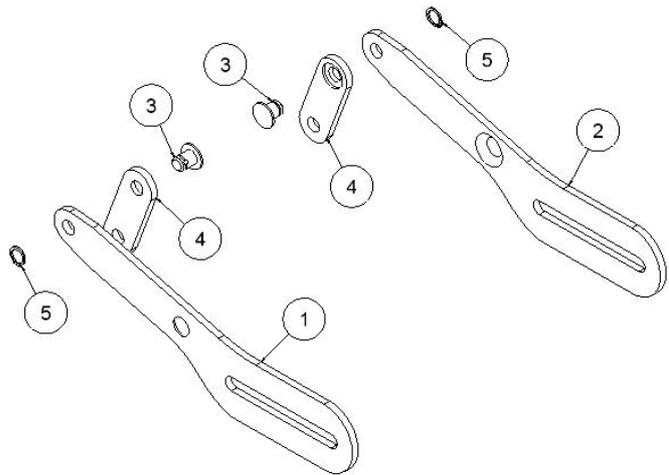

Figure.1
The handle group consists of the handle and the cam. Each handle (1 and 2) must be joined to a cam (4) through a joint (3). The subsection will be done with a security ring M8 x 0,8 DIN 471 (5). The cams must be placed on the inner face of the handle (the one with countersink), as it is shown on figure 1.